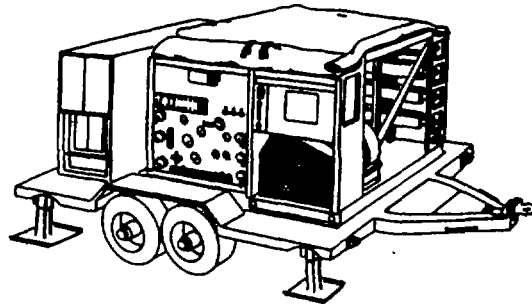
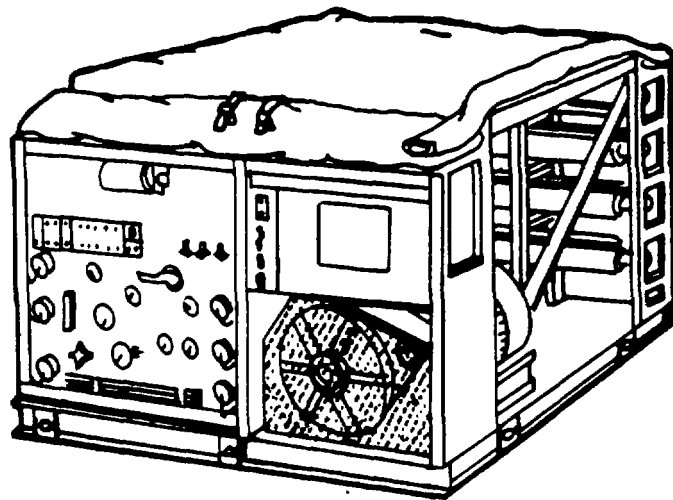
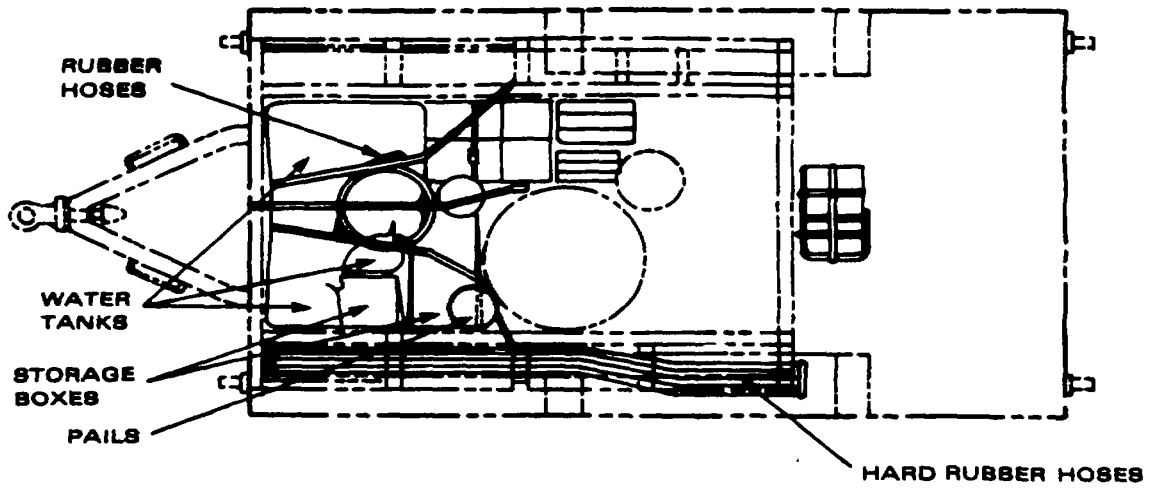

Figure 1-1. Reverse Osmosis Water Purification Unit (ROWPU) (Army)
Figure 1-2. Reverse Osmosis Water Purification Unit (ROWPU) (MC)
Figure 1-3. Top View Of ROWPU With Operating Equipment Stored (Army)
a. Characteristics. The ROWPU is a mobile water purifying unit needing a 30 kW power source, that supplies drinking water for troops in the field. (See fig. 1-1 (Army) and fig. 1-2 (MC)).
(1) Flow systems within the ROWPU process raw water to make it drinkable. Special pumps, controlled by a built-in control panel, move the water through the ROWPU to produce as much as 10 gallons (37.8 liters) of drinking water per minute. This water is stored in a collapsible tank that can hold up to a total of 1,500 gallons (5,670 liters) or 3,000 gallons (11,340 liters). The ROWPU can be transported by rail, road, or air.
(3) The Army and Marine Corps units are essentially the same except that the Marine Corps' ROWPU is mounted on a skid and does not incorporate a generator.
**1-6. LOCATION AND DESCRIPTION OF MAJOR COMPONENTS.** The Army ROWPU is 18 feet (5.5 meters) long, 8 feet (2.4 meters) high, and 8 feet (2.4 meters) wide. It weighs about 8 ½ tons (7.71 metric tons), including the generator set. Figure 1-3 shows the ROWPU from the top with its canvas cover removed. Take a close look at how all the necessary operating equipment is stored on the trailer for transport and shipment.
a. To provide room for all operating components, material is stored in layers (fig. 1-3 and 1-4). The top layer consists of rolled-up (suction) hoses on top of two folded water tanks. Stored between the tanks is a sledge hammer and a collapsed telescopic aluminum paddle. Next to the tanks is a stack of five plastic pails with chemical names on their sides. On the same side of the ROWPU you will find two storage boxes fastened with a strap under the tanks. The boxes contain various chemicals, tools, and installation items. Nine sections of suction hose are stored on the side of the frame.